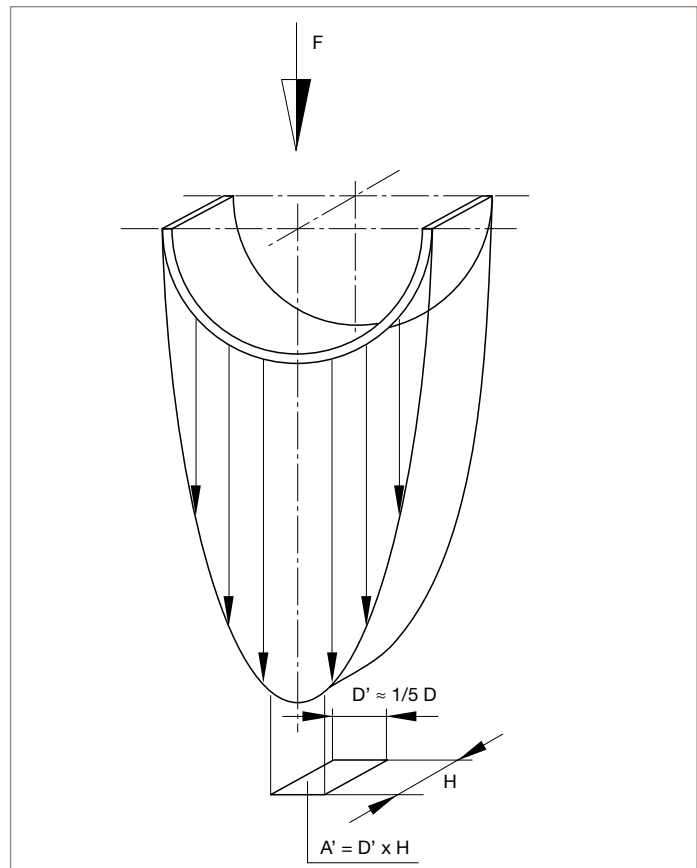
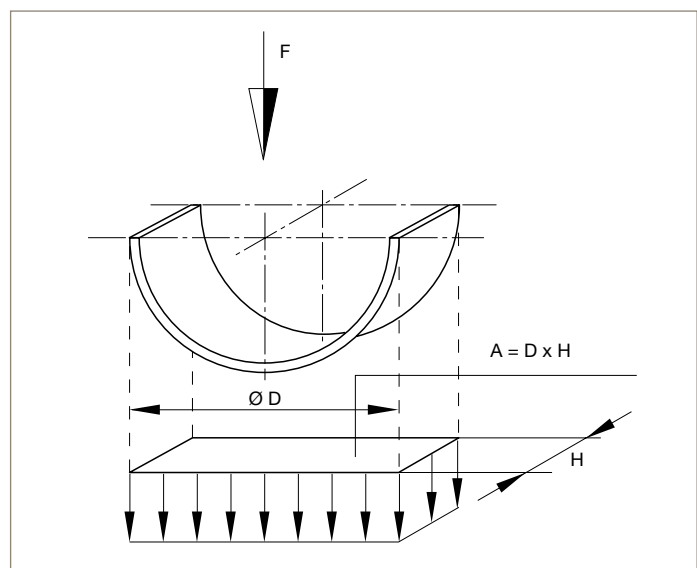

Fig. 7.1 – Pressure distribution on bearing area
Fig. 7.2 – Simplified pressure distribution on bearing area
These lateral forces (F) lead to a pressure distribution as shown in fig. 7.1. In practice, calculation based on the projected surface has proved to be a simple and more useful method. This means that the load carrying area (A) can be calculated from the length (H) multiplied by the diameter (D) (see fig. 7.2). The surface obtained is about 5 times larger than the assumed bearing area of fig. 7.1, so that lower specific loads must be reckoned with. In order to obtain the same values for lateral forces “ F ”, the specific load must be only 1/5 of the max. force shown in fig. 7.1. The indicated permissible specific forces ($F_{perm.}$) take this into account and the admissible specific pressure mentioned relates to the projected area as shown in fig. 7.2.